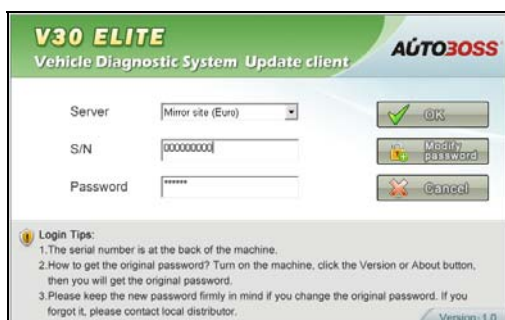

Fig 2-4 Modify password
(1) After inputting the serial number, click **[Modify password]** as shown in Fig 2-4 to go to the next step as Fig 2-5.